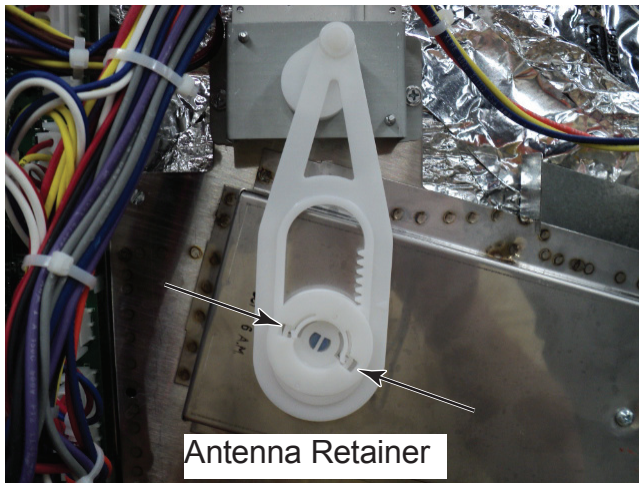

Figure 1
2. Remove antenna gear by squeezing two tabs on antenna retainer and remove retainer (Figure 1).